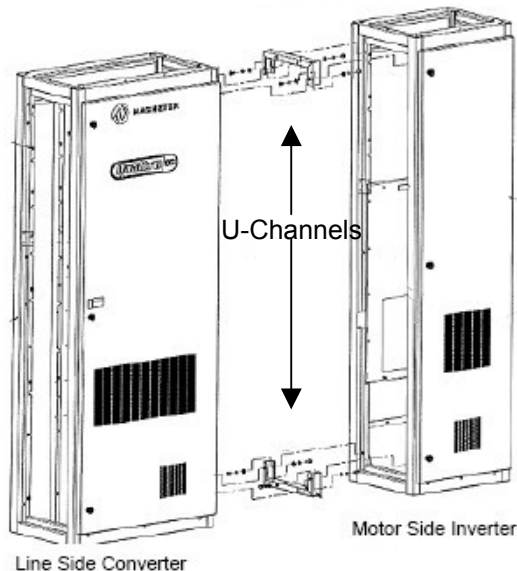

Figure 18: Enclosure Connections
1. The U-Channels, as seen in Figure 18, are factory bolted onto the Line Side Converter. Verify the U-Channels are torqued between 1.81-2.26 N-m (16-20 in-lbs) on the Line Side Enclosure